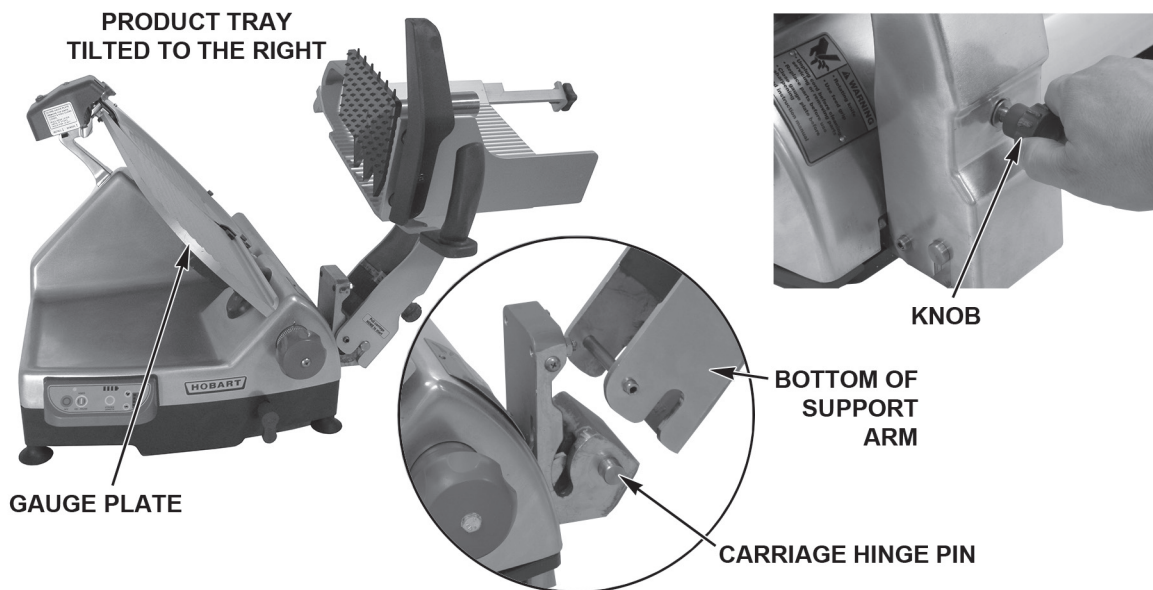

Fig. 22
- Lower the bottom of the Support Arm onto the Carriage Hinge Pins (Fig. 22).